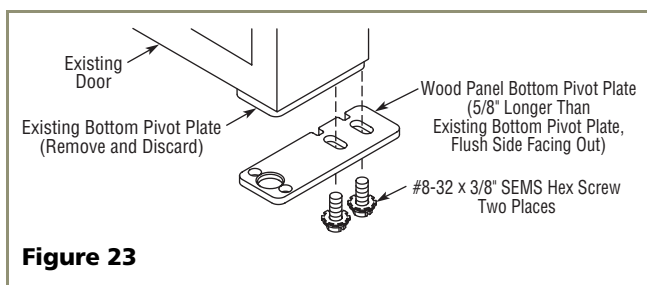

Figure 23
- Remove the existing bottom pivot plate and replace with the Full Overlay pivot plate (see **Figure 23**).